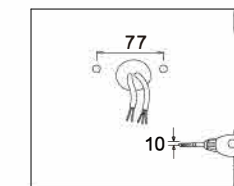

Figure 16
Step 1. Drill holes on the wall as shown (Figure 16)